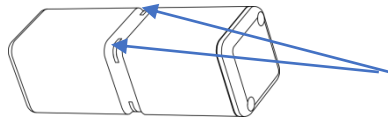

Figure 8A
- WWD has special recess "Figure 8A" which helps induce Water run through it, to create effective detection by probes from both end